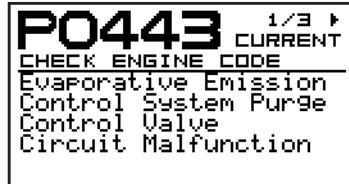

Fig.10
2. Arrow to the right to view the DTCs (Fig.10).